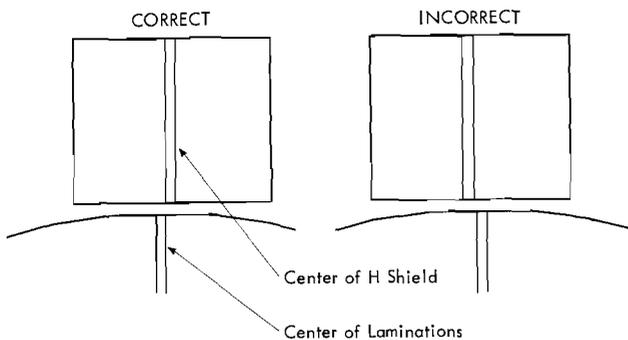

Figure 19. H Shield Adjustment
6. When a tape unit is adjusted for minimum feed-through, excessive temporary write checks may occur because of the position of the H shield. If the center of the H shield is located to the left of the center laminations of the head (Figure 19), extra bits can be introduced into τAU register B. This shows up as a bit pickup and gives a compare error, causing the temporary write check. To correct this condition the H shield should be moved to the right, so that the center of the H shield is to the right of the center head laminations. This must be done even though minimum feed-through is sacrificed.